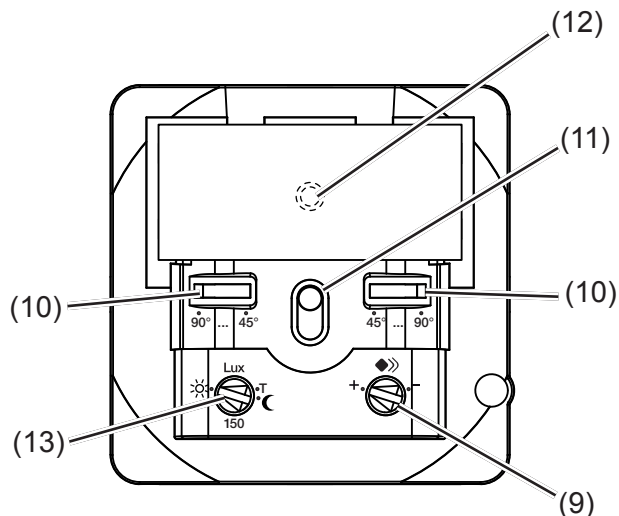
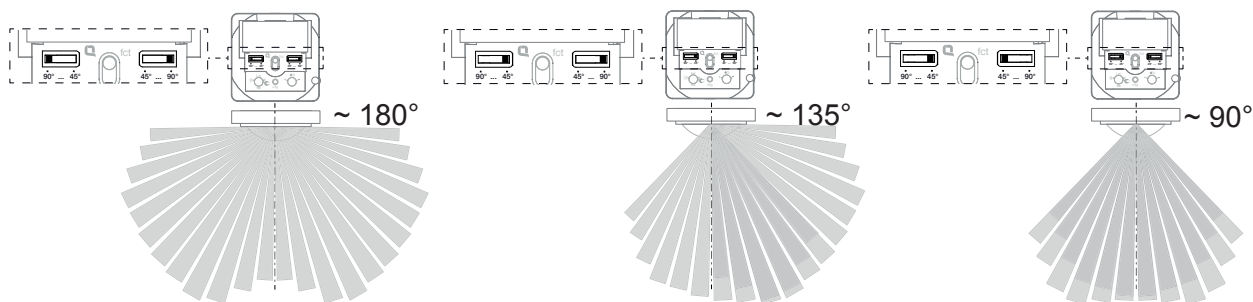

Fig. 5: Operating and adjustment elements of the bottom part of the application module
Fig. 8: Setting the detection angle
The detection angle can be restricted for the right side and for the left side via each adjuster (Fig. 5, 10) between 45° ... 90°. Thus, the detection angle can be between 90° and 180° (Fig. 8).
- Setting the test mode. To do so, set the response brightness potentiometer (Fig. 5, 13) to the T position.
- Turn the response brightness potentiometer (Fig. 5, 13) to the desired position.
- Turn the sensitivity potentiometer (Fig. 5, 9) to the desired position.